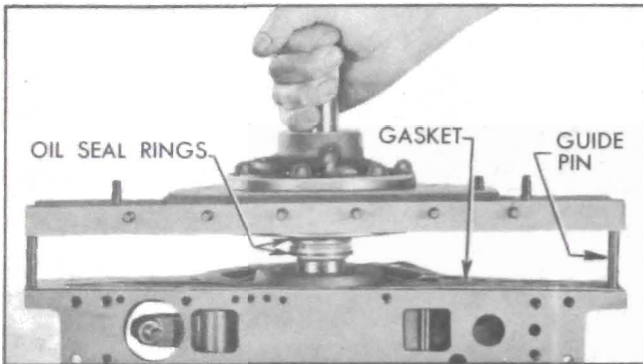

Figure 5-92—Installing Reaction Shaft Flange and Gasket
1. Install a  $\frac{5}{16}$ " guide pin (fig. 5-83) in accumulator bolt hole at each end of flange on transmission case. See figure 5-92.
3. Make certain that oil seal rings are on flange hub, then install flange assembly on case using care to avoid damaging oil seal rings. See figure 5-92.